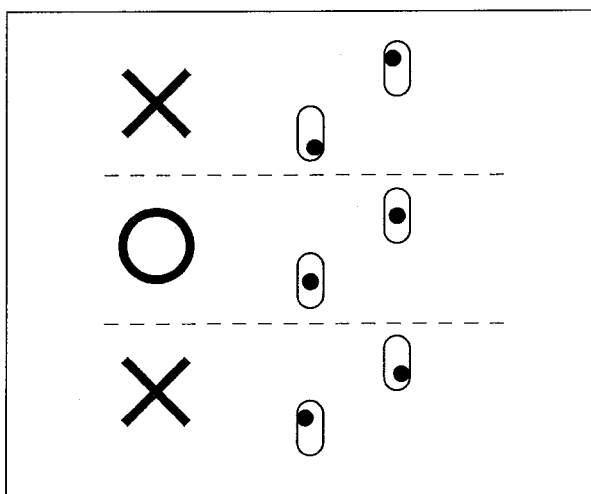

Fig. 18
- (1) Set the needle into the needle installation hole on the needle clamp.
- (2) Remove the screw ①.
- (3) Loosen the screw ② of the needle bar bracket. Move the needle bar up and down to make the height from the top of the stitch plate to the left needle tip to 12.0 mm.
- (4) Make sure the needle drops into the center of the needle hole on the stitch plate, then tighten the screw ② securely. (Fig. 18)
- (5) Screw the screw ① back.